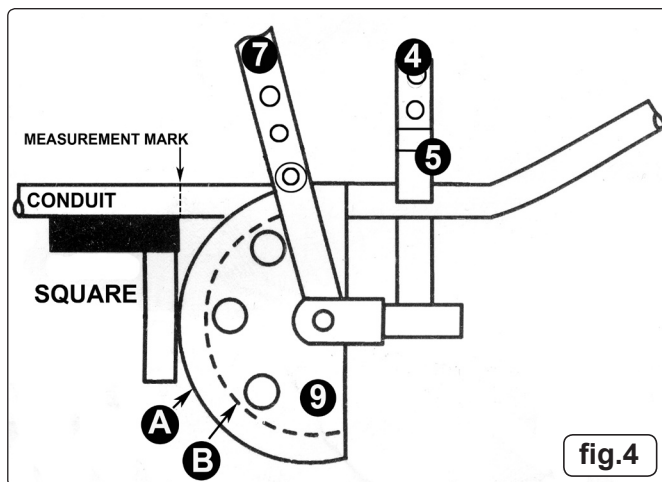

fig.4
- 4.2.3 Place a square or a rule against the mark on the conduit and slide the conduit along until the square touches the outside edge of the former (9) (fig.4.A). The conduit is now in the correct position for bending.
**Note! Before commencing the bend ensure that the conduit is bedded firmly into the groove in the former (9) otherwise the bend will be inaccurate.**
- 4.3.3 Place a square or a rule against the mark on the conduit and slide the conduit along until the square touches the inside edge of the former (9) (fig.4.B). The conduit is now in the correct position for bending.
- 4.4.1 If the required measurement is from the outside to the outside of the bends, mark off from the outside of the first bend and square up with the outside (fig.4.A) of the former (9). If the measurement is from the outside to the inside of the bends (centre to centre) square up with the inside of the former (fig 4.B).